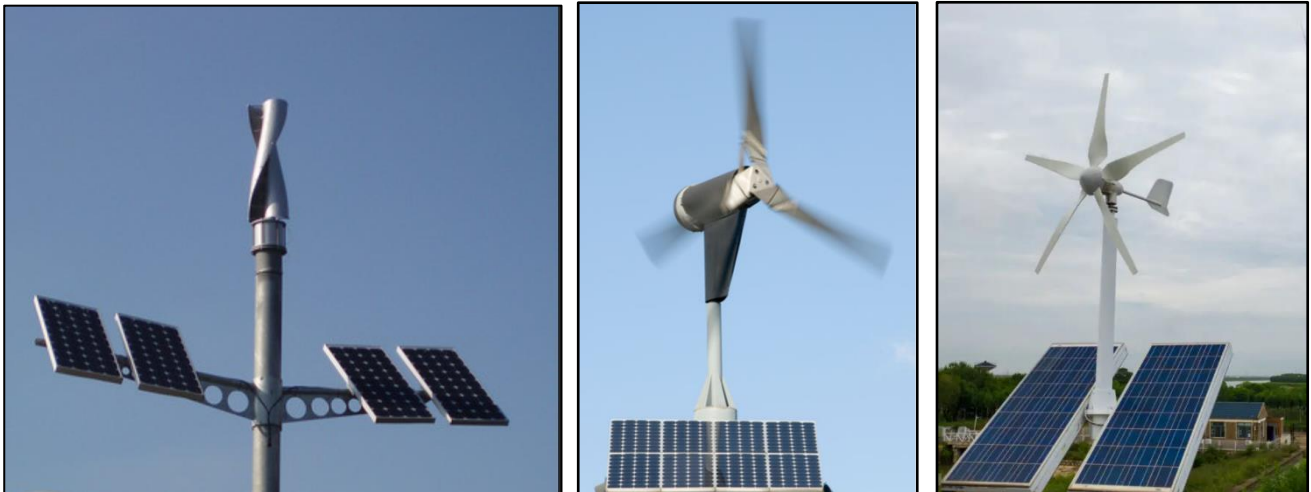

Figure 1: Three examples of 'hybrid' systems combining wind and solar power installations
Increasingly these two systems are combined in small scale, so called 'hybrid', installations such as those illustrated in Figures 1. The two systems generally complement each with the solar photovoltaic (PV) panels generating the majority of the electricity on sunny or bright, but relatively calm days, particularly in the summer, while the wind turbine generates most on dull windy days, in winter and at night, the latter being an important additional advantage of wind power.²